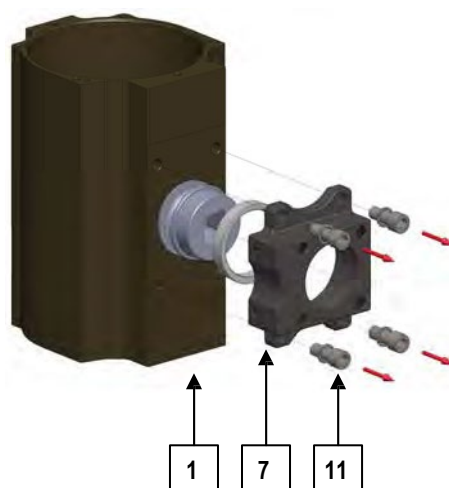

Fig. 10
9. Lay the actuator on one base of its cylinder (1) and unscrew the screws (11) in crossed sequence to remove the plate (7) (see Fig. 10).